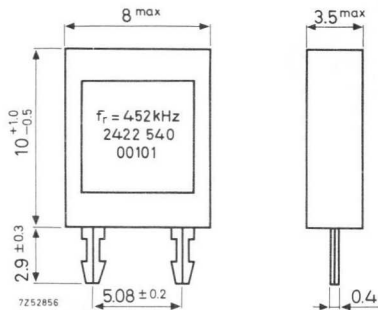

Fig.1
- for printed-wiring boards with holes of 1.3 mm (Fig.1)